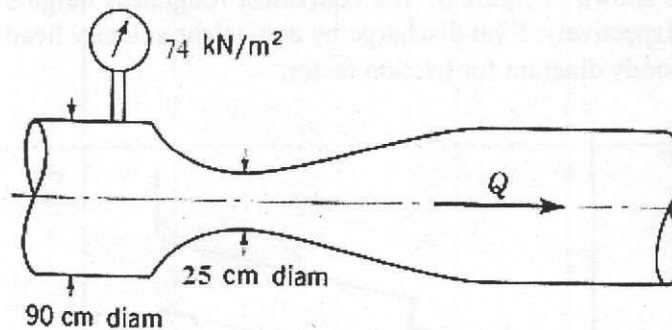

Figure 1
- (c) In a flow the velocity vector is given by $V = 2xi - 3yj + 5zk$. Determine the equation of the streamline passing through a point M (3, 1, 2). (10)
- (b) A liquid ($S = 0.80$) with a $P_v = 26 \text{ kN/m}^2$, abs flows through the horizontal constriction as shown in figure 1. $P_{\text{atm}} = 68 \text{ cm Hg}$. Find the maximum theoretical flow rate without cavitation to occur). Neglect head loss. (12)